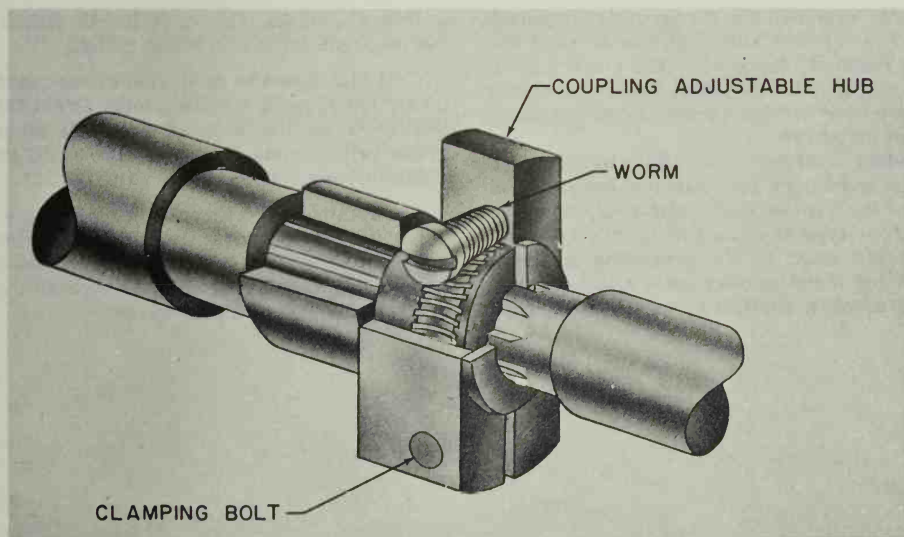

Figure 11-22.—Adjustable (vernier) coupling.
3. The adjustable (vernier) coupling provides a means of finely adjusting the relationship of two interconnected rotating shafts, (fig. 11-22). By loosening a clamping bolt and turning an adjusting worm, one shaft may be rotated while the other remains stationary. When the proper relationship is attained, the clamping bolt is retightened, locking the shafts together again.